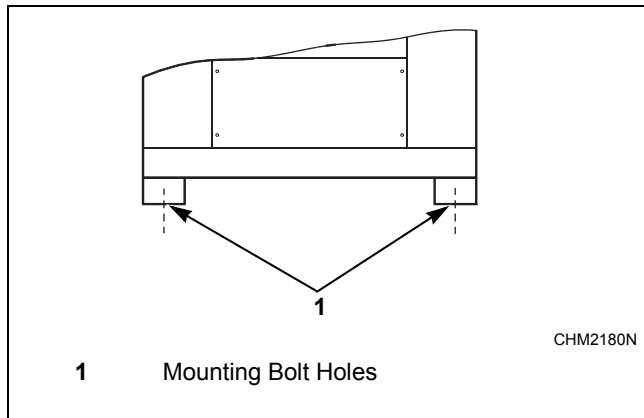

Figure 17
The machine must be placed on a flat, solid surface (metal base, concrete or solid ground). It is recommended that the machine be anchored (M16) on the provided places (1) in the base, especially in case of a plinth (See Mounting Bolt Hole Locations). Refer to *Figure 17*.